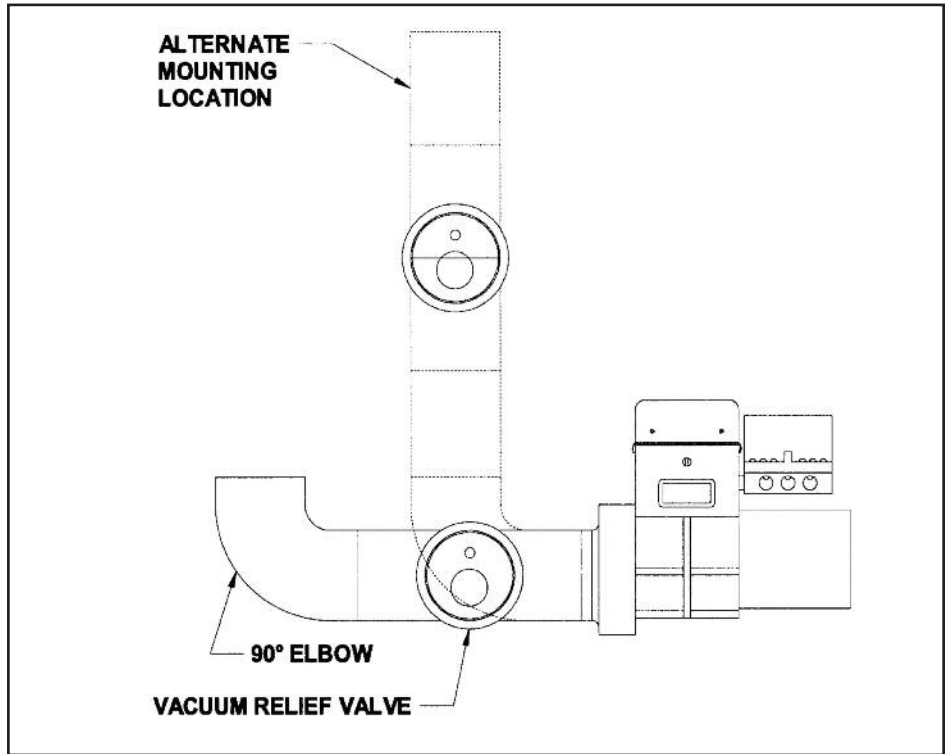

FIGURE 11: Connection of vacuum relief valve
2. The VRV should be installed close to the air inlet of the burner, see fig. 11 on page 7.